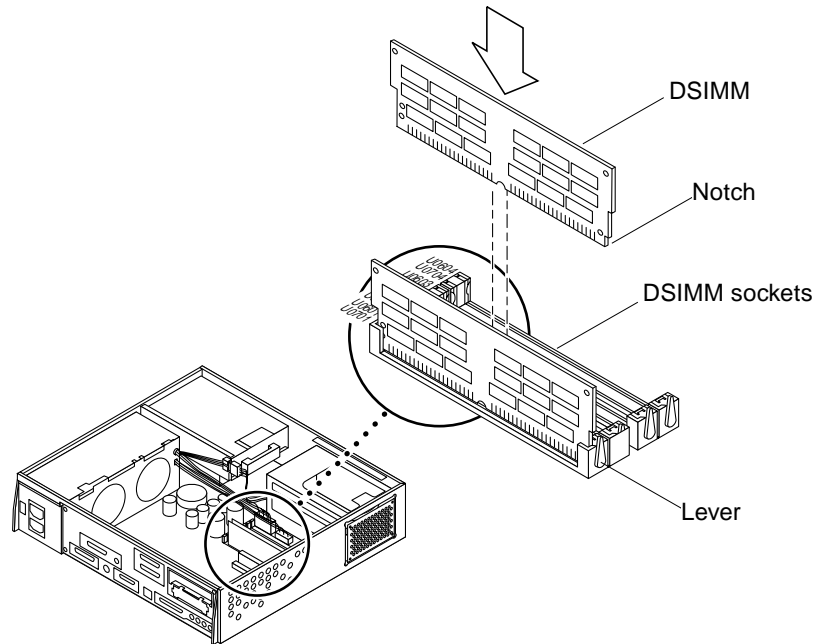

Figure 3-15 Installing a DSIMM
2. Position the DSIMM in the socket. Ensure that the notch is on the same side as the lever (Figure 3-15).
3. Insert the DSIMM into the socket by pushing it down at both ends until fully seated (Figure 3-15).